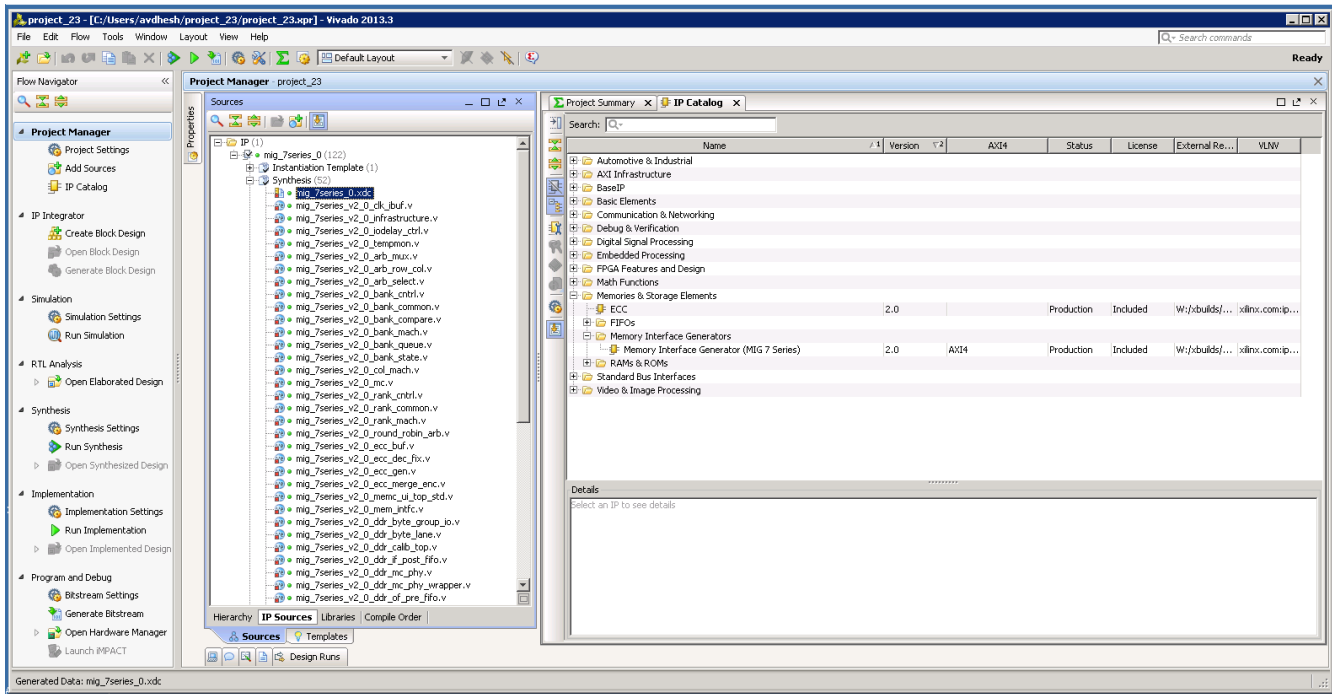

Figure 3-31: Vivado Project – RTL and Constraints Files
- All user-design RTL files and constraints files (XDC files) can be viewed in the **Sources > Libraries** tab (Figure 3-31).